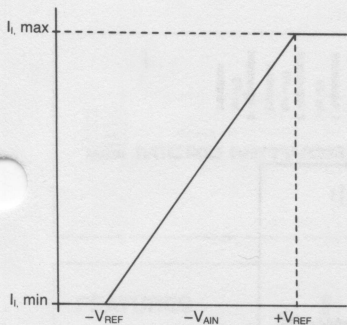

Figure 4.
1. Analog input current varies linearly as a function of input voltage. See Figure 4, Analog Input Current versus Analog Input Voltage.